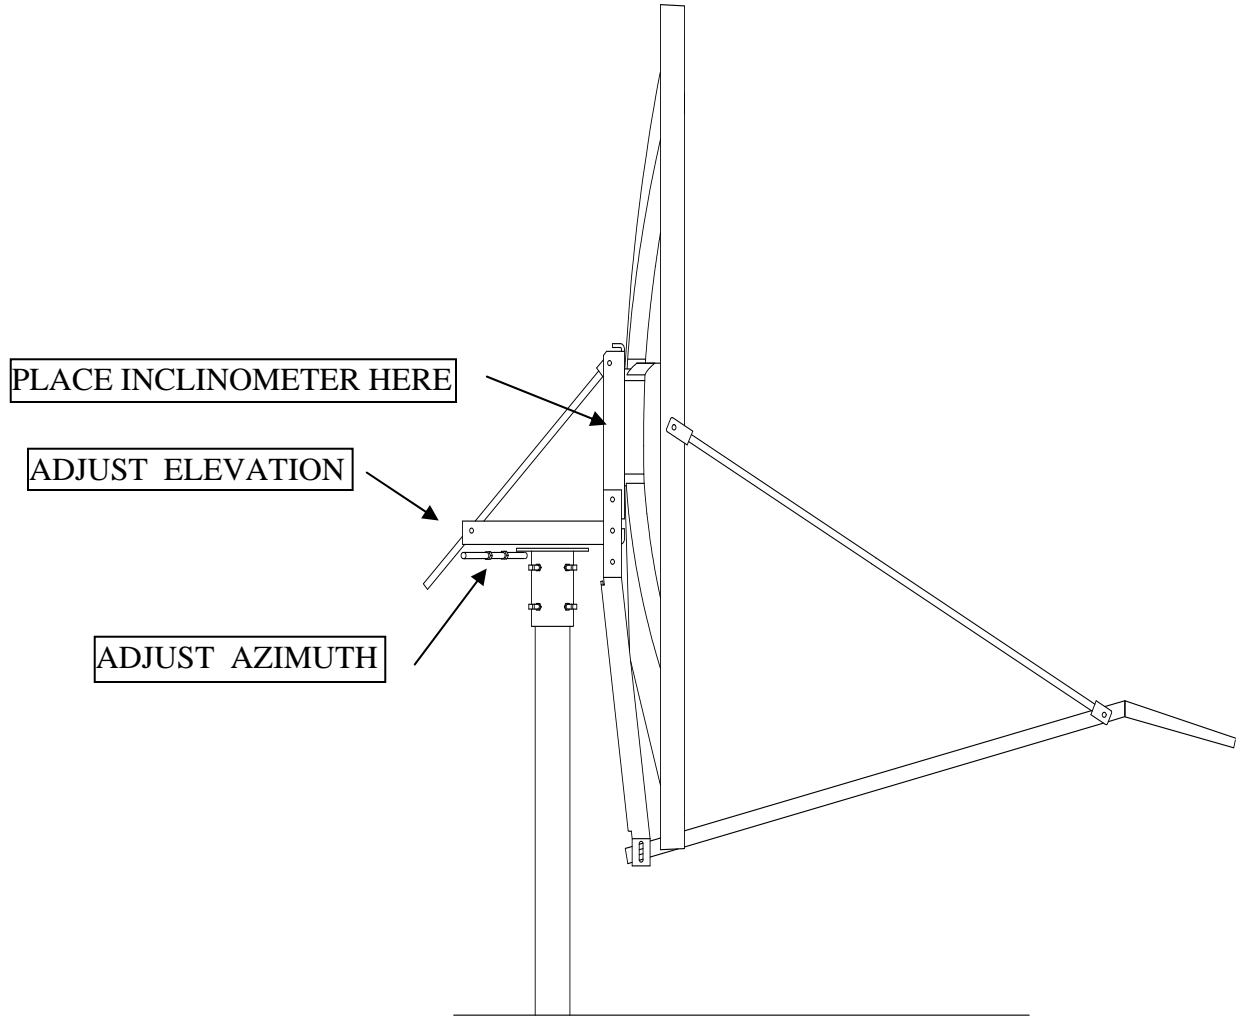

Figure 2
The 1.2 meter reflector contains a 17.3° elevation offset look angle. Therefore, when the reflector aperture is perpendicular to the ground, the antenna is actually looking 17.3° in elevation. Refer to Figure 2.
- Step 1:** Place an inclinometer on the reflector support angle as shown in Figure 2.